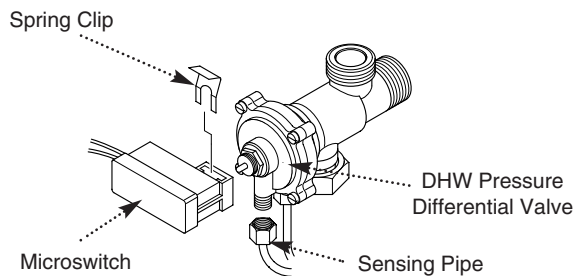

Fig. 65
12.22 Diverter Valve Assembly (Figs. 65 & 66)
DHW Pressure Differential Valve Diaphragm (Figs. 65 & 66)